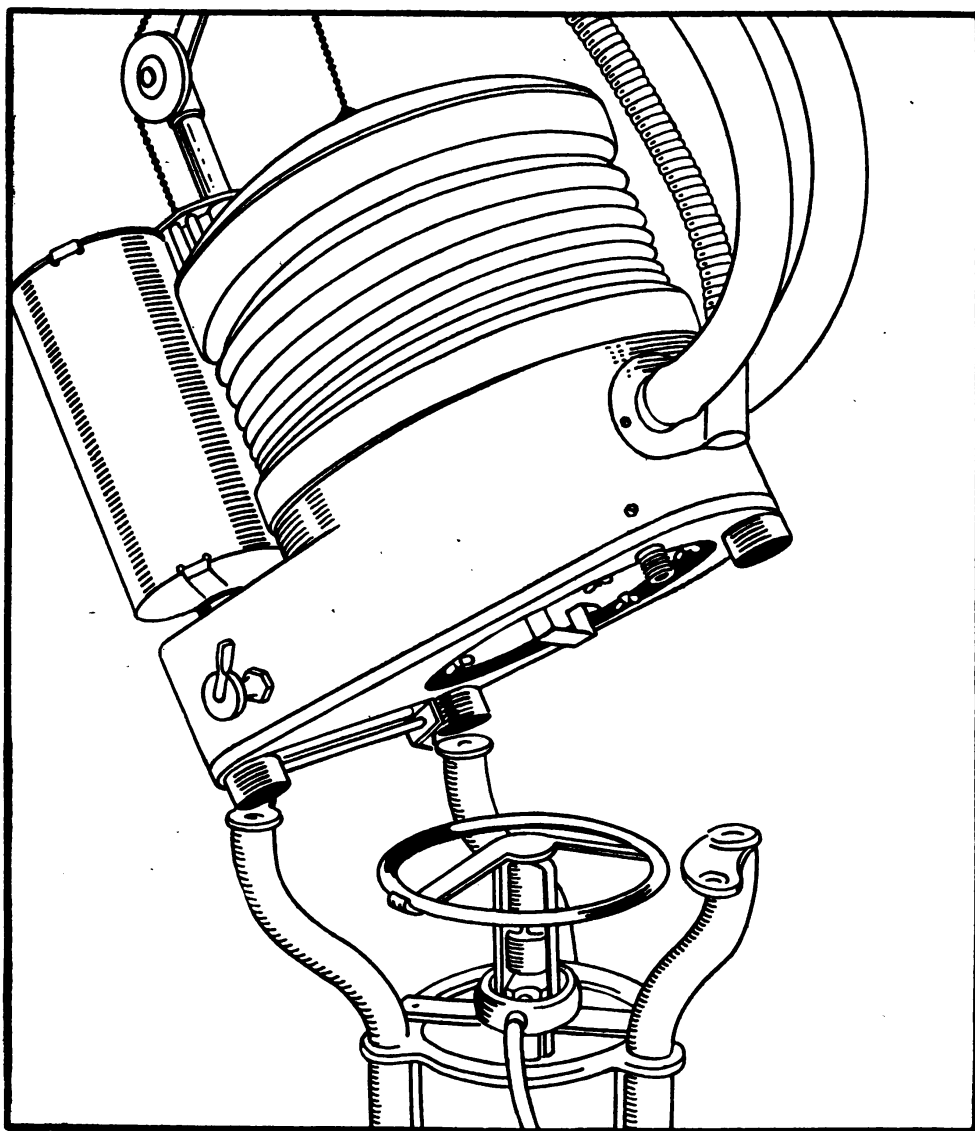

Figure 5. Position for attaching apparatus to stand.
- (2) *To mount apparatus.* (a) Grasp the base and tilt the tester until the hooks underneath can be seen (looking from the flexible arm end). (See fig. 5.)